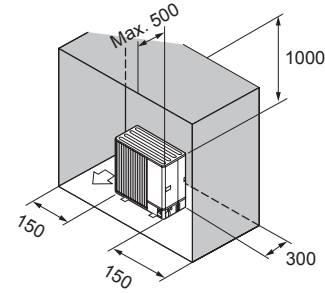

Fig. 2-29
- ⑥ Obstacles at rear, sides, and above only (Fig. 2-29)